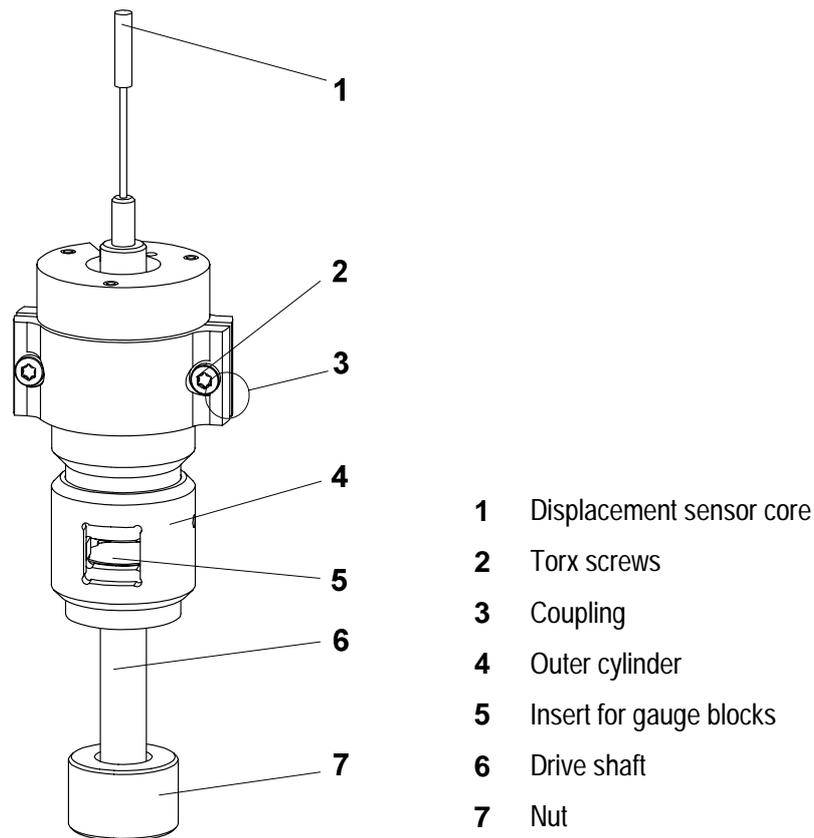

Fig. 8-10. adjustment assembly
The adjustment procedures are described in the following sections. The position numbers in Fig. 8-10 are used as reference.
- Adjustment assembly mounted, coupling 3 in Fig. 8-10 installed
⇒ See page 8-32, Fig. 8-10